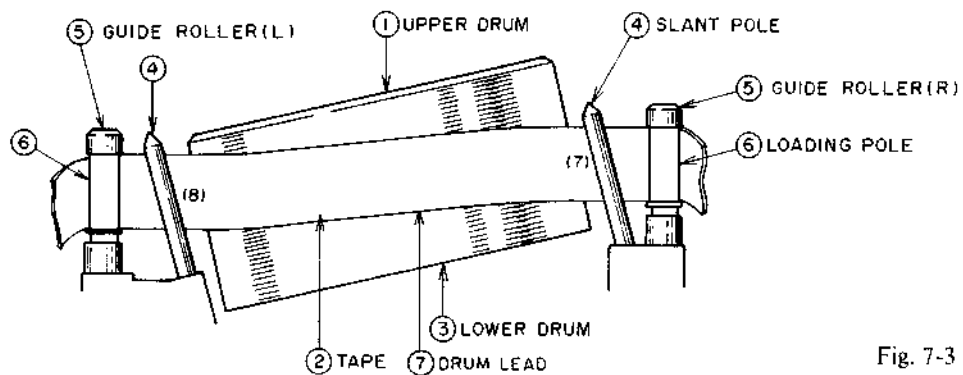
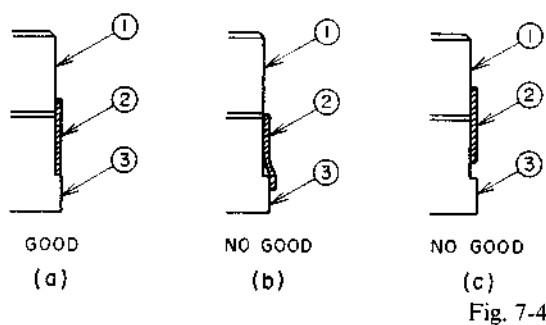

Fig. 7-3
Fig. 7-4
### 7-3. GUIDE ROLLER HEIGHT ADJUSTMENT (Refer to Figs. 7-3 to 7-6)
- ① of Fig. 7-3, adjust the height of the Guide roller (R) so that the tape runs without curling as shown in Fig. 7-4 (a).
- 5) Similarly, adjust the height of the guide roller (L) watching the waveform on the oscilloscope and the point ① of Fig. 7-3.